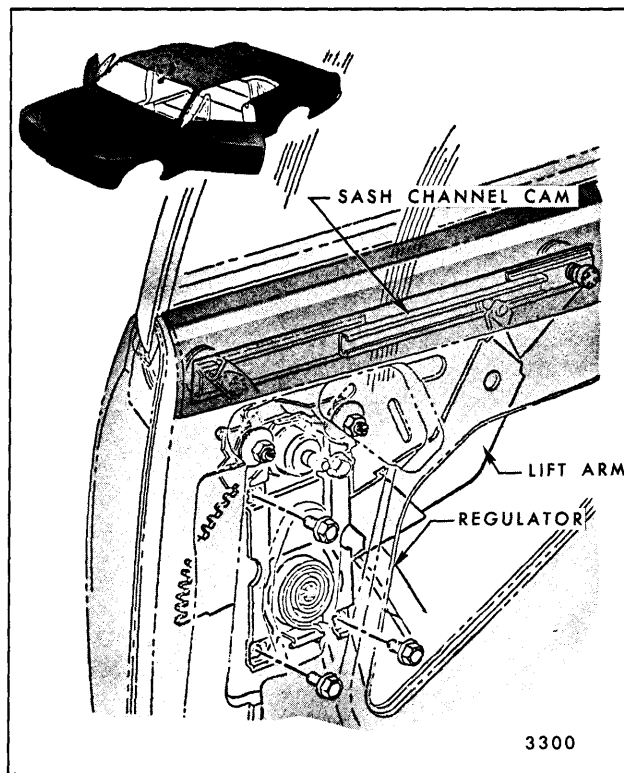

Fig. 7-43—Rear Quarter Window Regulator Removal - "Z-37" Style
2. On "E-87" styles, remove rear quarter window. On "A & Z-37" styles, prop window in a full-up position (see Fig. 7-43).